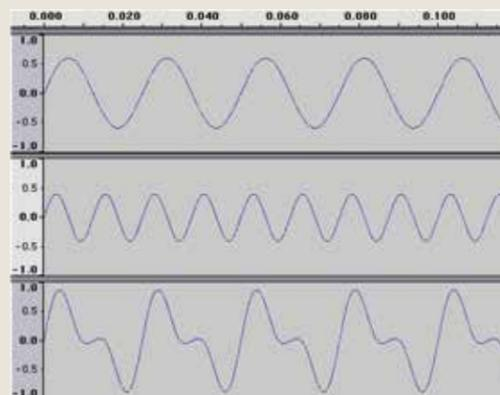

Figure 2
**ADDITIVE SYNTHESIS** is a method where the sound of a pipe is synthesized by generating time- and frequency-varying sinusoidal waves. A commercial implementation of Additive Synthesis used for organ pipe sounds was the 'Bradford System', developed at the University of Bradford and used by some organ companies in their instruments in the 1980's. In its day, this was far away the best method of organ tone production although it has now been superseded. A simple example is given in figure 2. The top two sinusoidal waves are added up to form the bottom one.